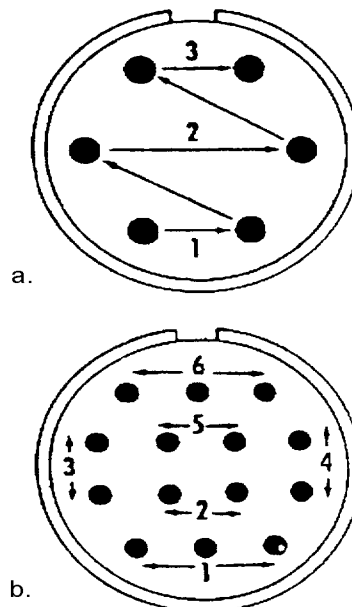

Figure 22. Connector Soldering Sequence
67. **SOLDERING SEQUENCE.** When soldering wires to connector, follow a rigid sequence to help avoid errors in wiring and prevent burning or scorching the insulation of wires already soldered. Two suggested sequences are shown (Figure 22) but are not mandatory. It is important that a fixed sequence is developed and used.